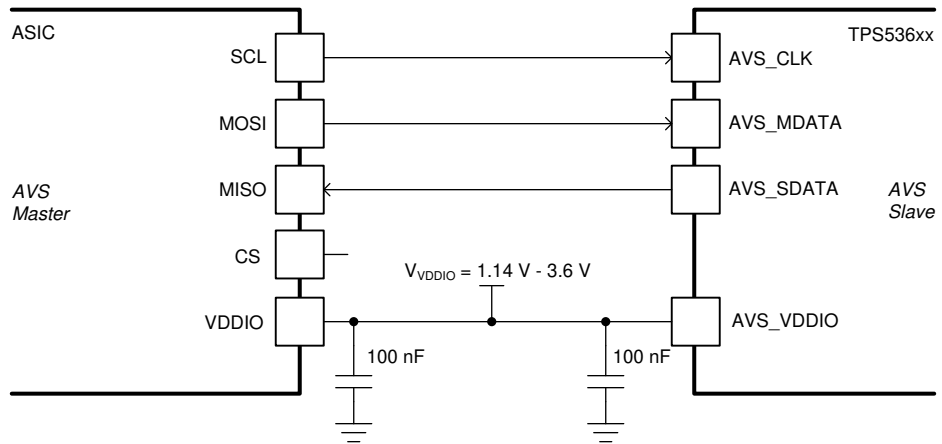

Figure 7-12. AVSBus connection diagram
Figure 7-12 illustrates how to interface the TPS53676 with a host ASIC or load with an integrated *Serial Peripheral Interface (SPI)* port. AVSBus is a point-to-point protocol and does not use a chip select (CS) pin. AVSBus uses push-pull signaling and requires a separate supply pin, AVS_VDDIO. Connect a well-regulated supply between 1.14 V and 3.6 V to AVS_VDDIO, and a local high quality ceramic bypass capacitor of 100 nF minimum effective capacitance. The input high and low thresholds are set relative to the voltage supplied at the AVS_VDDIO pin, as shown in the *Electrical Specifications* table. In applications which do not use AVSBus, ground the AVS_VDDIO, AVS_CLK and AVS_MDATA pins; float the AVS_SDATA pin.